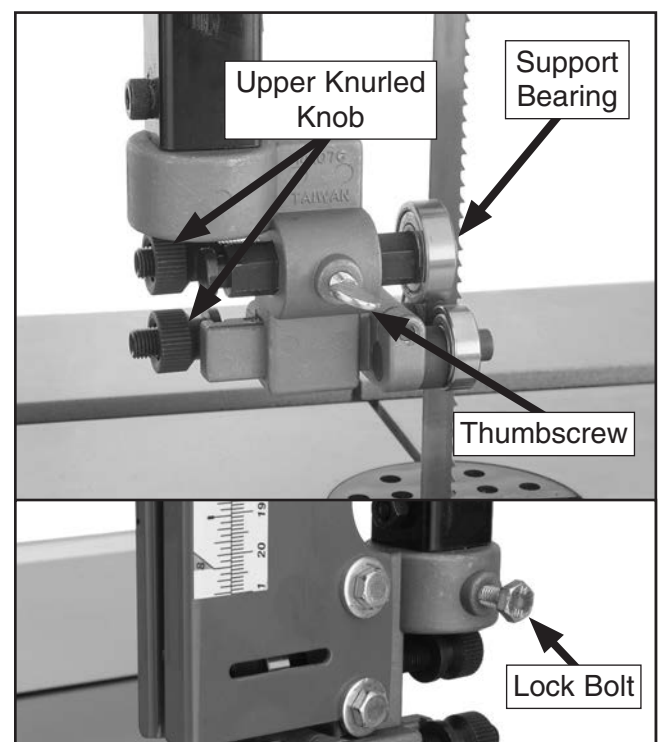

Figure 30. Support bearing controls.
3. Familiarize yourself with the support bearing controls shown in **Figure 30**.